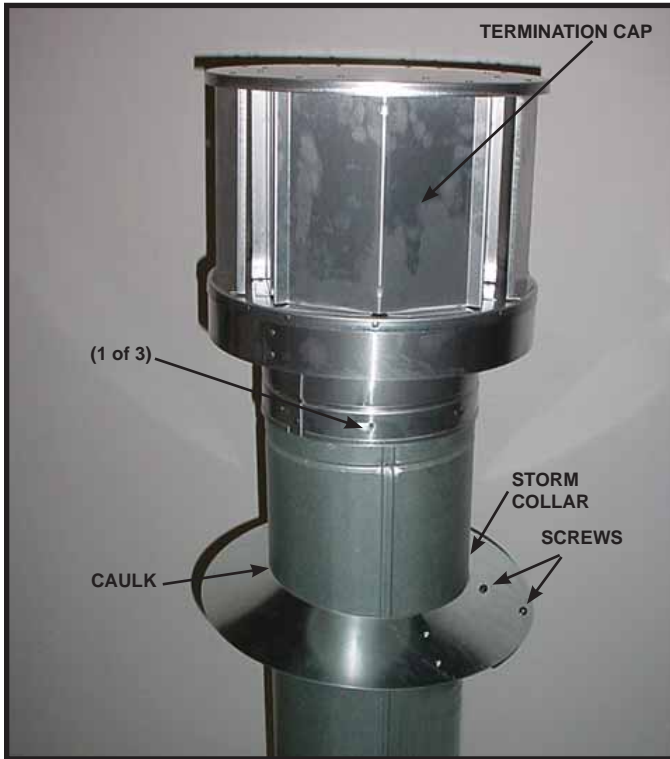

Figure 10.19
- Caulk around the top of the storm collar (see Figure 10.19).
- Secure the cap by driving three self-tapping screws (supplied) through the pilot holes in the outer collar of the cap into the outer flue of the pipe (see Figure 10.19).